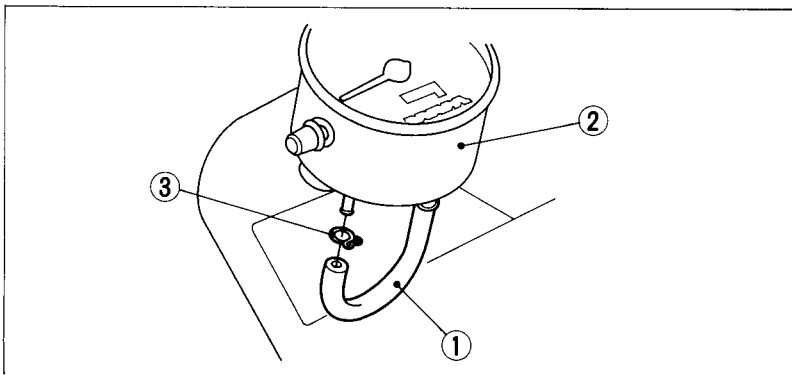

Fig. 2-15 (1) Speedometer hose (3) Clip
The speedometer hose (Fig. 2-15) is below the speedometer (2). When the speedometer glass is clouded, remove the hose by releasing the clip (3). Reinstall the hose and clip after the speedometer glass becomes cleared.